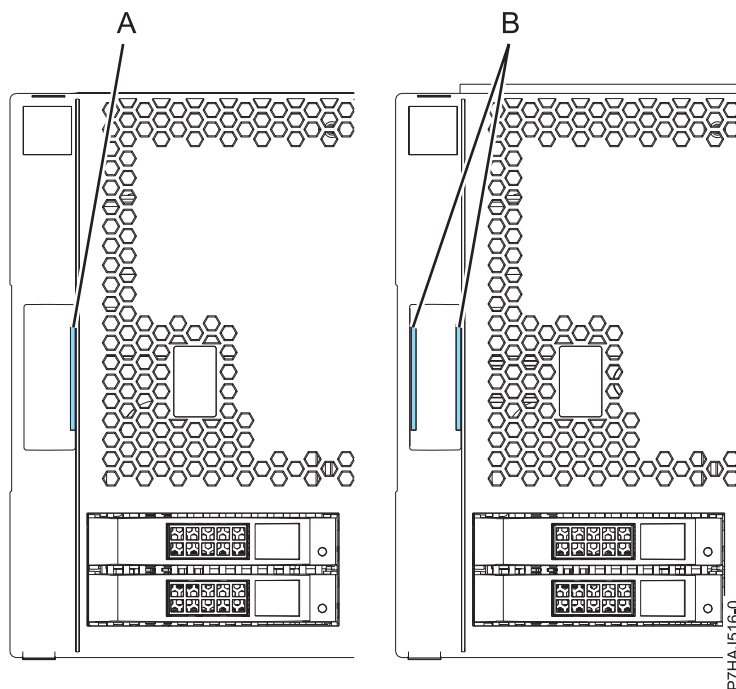

Figure 35. Identifying the older and newer covers
Note: The older covers that were shipped before 1 March 2011 can be identified by a single blue stripe (A) on the cover assembly latches. Newer covers that were shipped after 1 March 2011 have two blue stripes (B) on the cover assembly latches. See Figure 35.